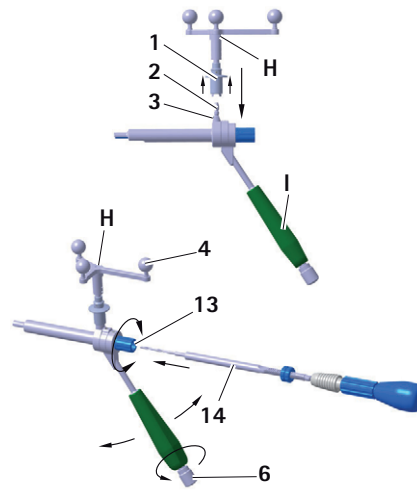

Fig. 10 Mounting the Aesculap star unit on the S⁴C guide sleeve for smooth-shaft screws
- ▶ To ensure that the camera has an unrestricted view of the reflective marker spheres, loosen knob 6 on the S⁴C handle of the S⁴C guide sleeve I and rotate Aesculap star unit H to the desired position, see Fig. 10.